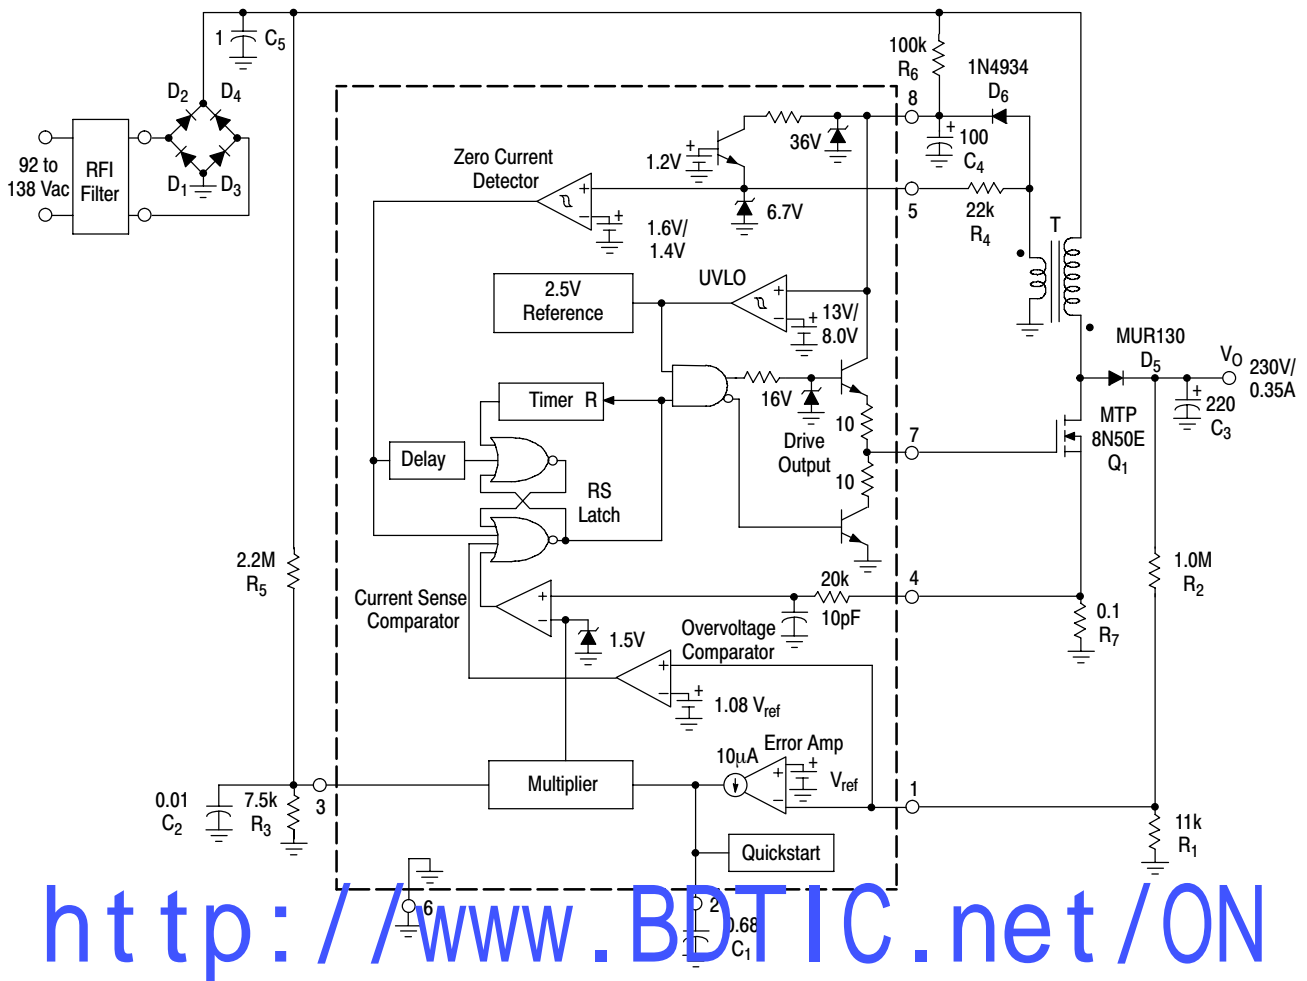
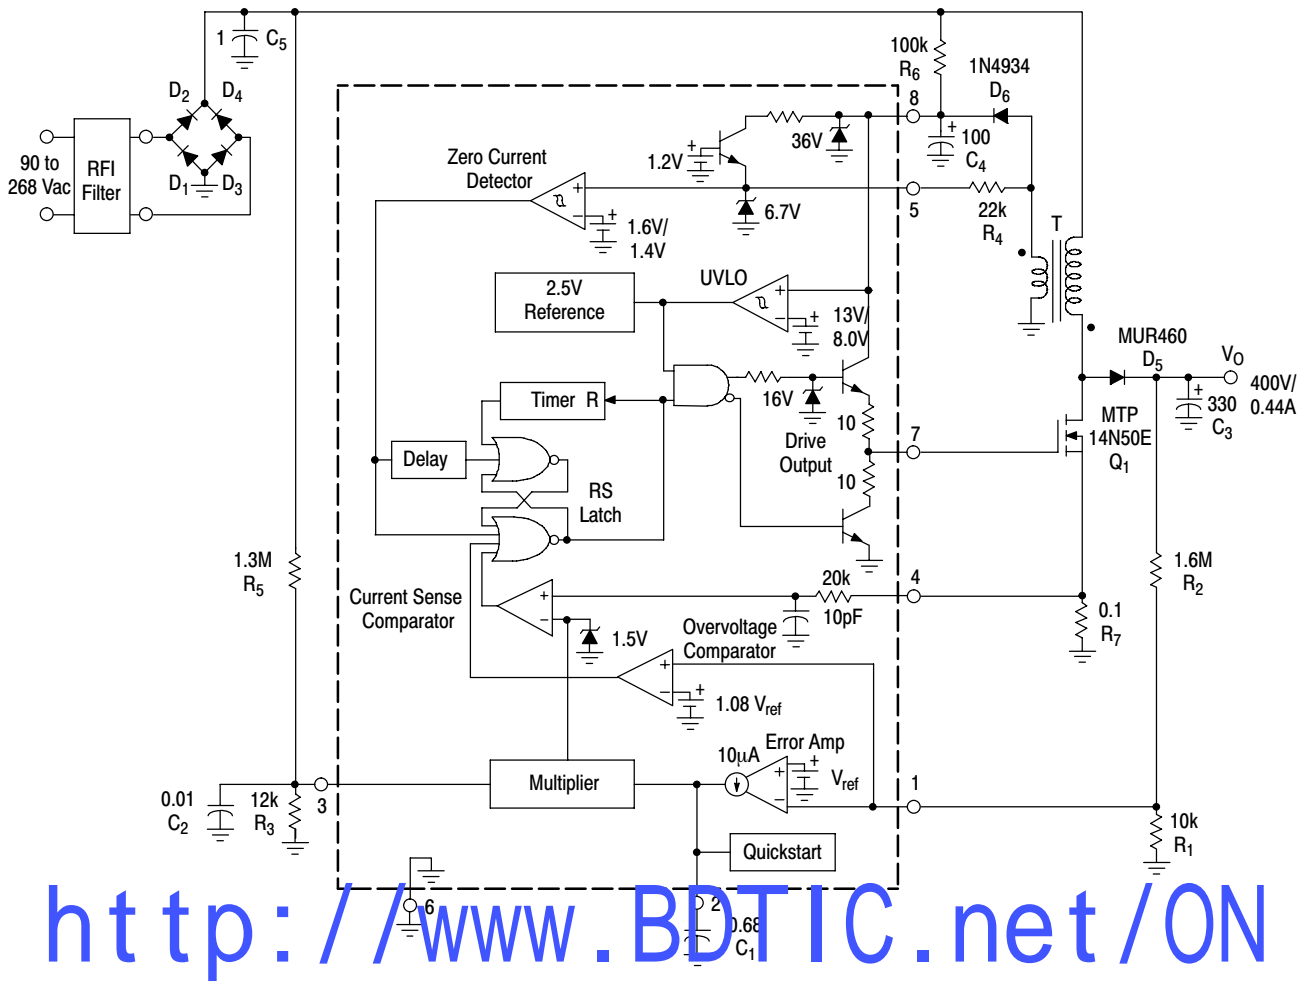
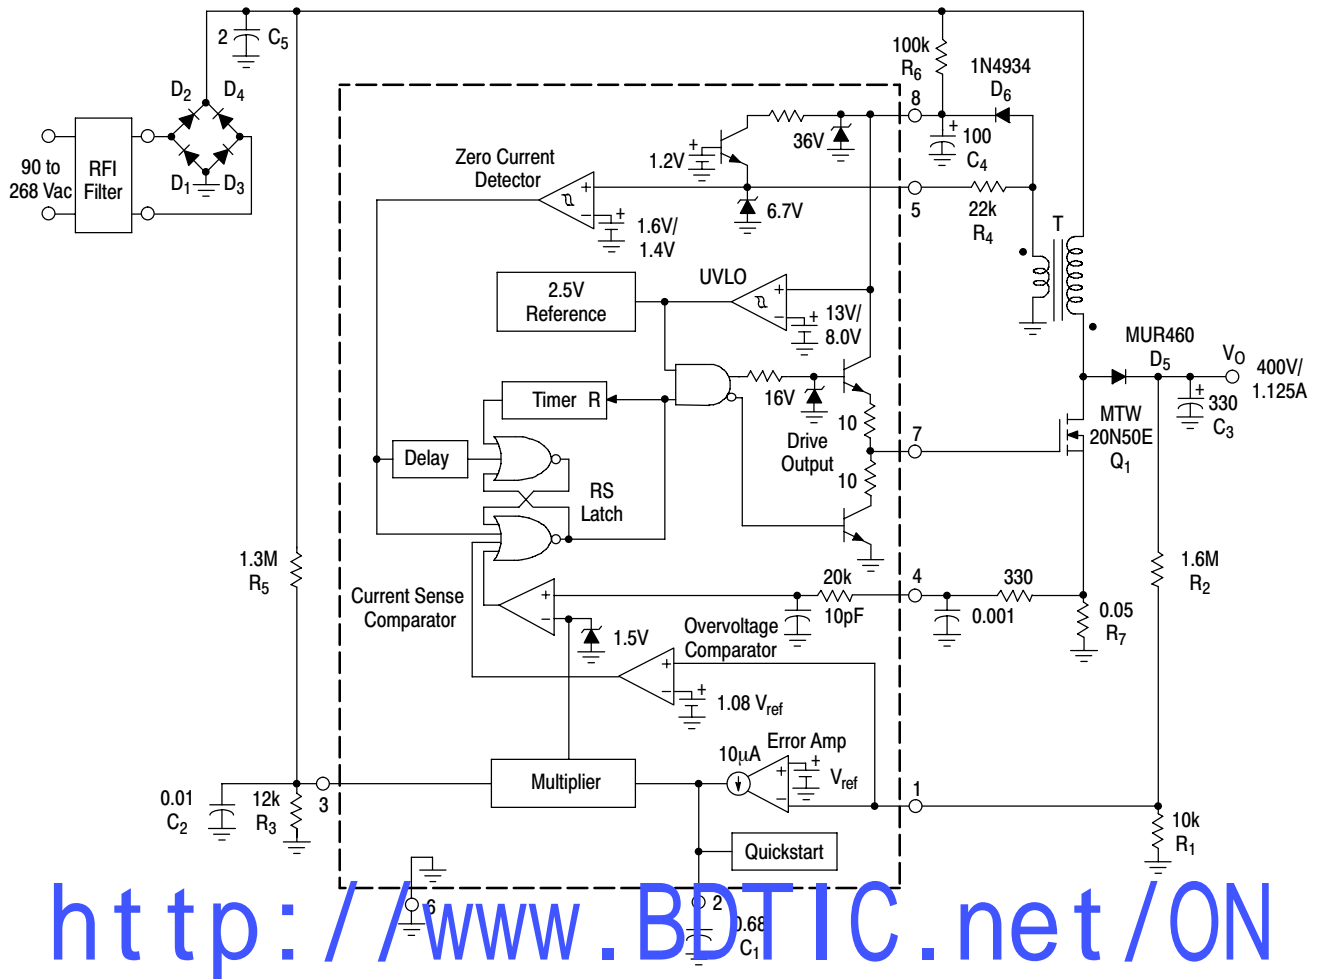
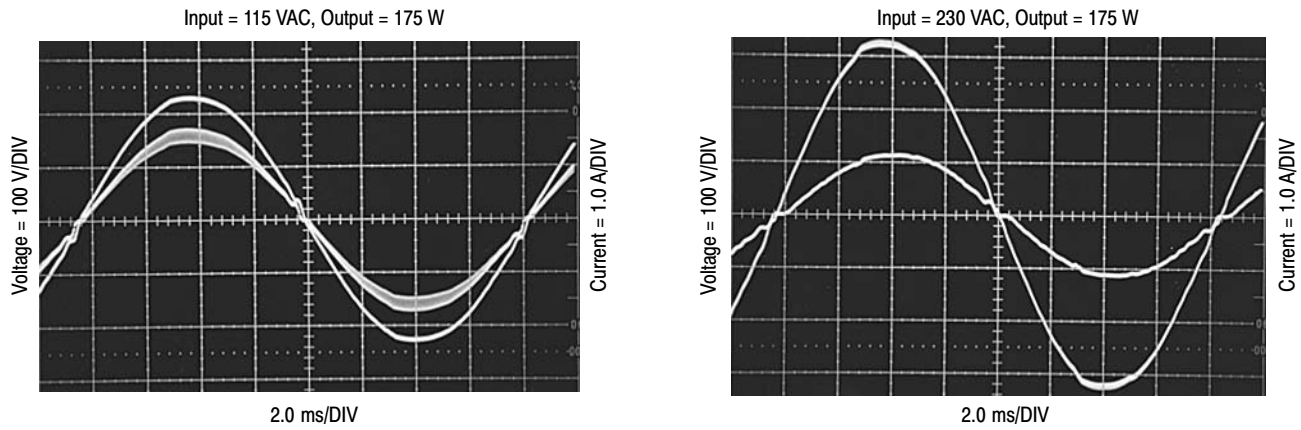

Figure 20. 80 W Power Factor Controller
Figure 21. 175 W Universal Input Power Factor Controller
Figure 22. 450 W Universal Input Power Factor Controller
Figure 23. Power Factor Corrected Input Waveforms (Figure 20 Circuit)
An internal RC filter has been included to attenuate any high frequency noise that may be present on the current waveform. This filter helps reduce the ac line current distortion especially near the zero crossings. With the component values shown in Figure 20, the Current Sense Comparator threshold, at the peak of the haversine varies from 1.1 V at 90 Vac to 100 mV at 268 Vac. The Current Sense input to Drive Output turn-on propagation delay is typically less than 200 ns.
0.998 at nominal line. Figures 20 and 21 are universal input preconverter examples that operate over a continuous input voltage range of 90 Vac to 268 Vac. Figure 20 provides an output power of 175 W (400 V at 440 mA) while Figure 21 provides 450 W (400 V at 1.125 A). Both circuits have an observed worst-case power factor of approximately 0.989. The input current and voltage waveforms of Figure 20 are shown in Figure 22 with operation at 115 Vac and 230 Vac. The data for each of the applications was generated with the test set-up shown in Figure 23.
An RFI filter is required for best performance when connecting the preconverter directly to the ac line. The filter attenuates the level of high frequency switching that appears on the ac line current waveform. Figures 19 and 20 work well with commercially available two stage filters such as the Delta Electronics 03DPCG5. Shown above is a single stage test filter that can easily be constructed with four ac line rated capacitors and a common-mode transformer. Coilcraft CMT3-28-2 was used to test Figures 19 and 20. It has a minimum inductance of 28 mH and a maximum current rating of 2.0 A. Coilcraft CMT4-17-9 was used to test Figure 21. It has a minimum inductance of 17 mH and a maximum current rating of 9.0 A. Circuit conversion efficiency η (%) was calculated without the power loss of the RFI filter.
(Circuits of Figures 20 and 21)